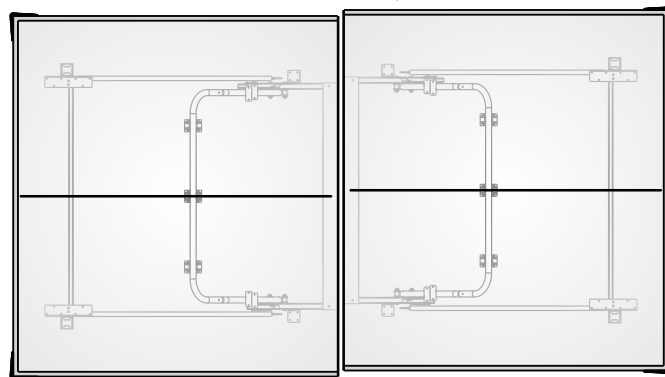

Figure 18
IF TABLE IS NOT ALIGNING CORRECTLY: (see Figure 18)
3. With the help of two other adults, push the two table top halves so they are in line with each other and re-tighten the Wing Nuts (#32) as shown in Figure 18.